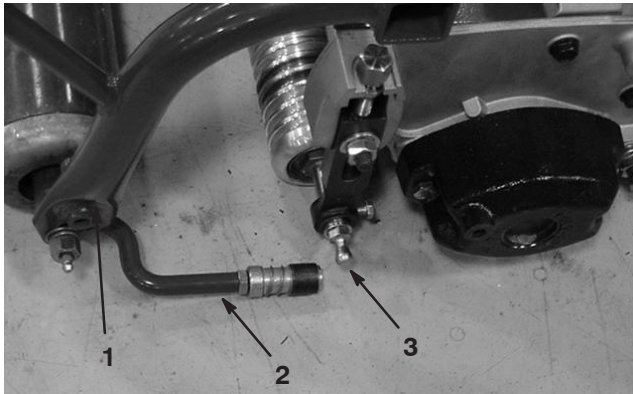

Figure 10
2. Mount a washer and ball stud to each end of the front roller on the cutting units (Fig. 10).